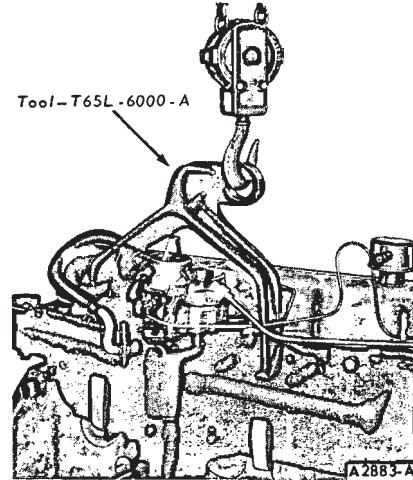

FIG. 45—Removing or Installing Engine
**12.** Attach the engine lifting hook (Fig. 45). Remove two bolts attaching the right side engine support insulator to the engine. Remove the insulator. Raise the engine slightly; then carefully pull it from the transmission. Lift the engine out of the chassis.
Install the thrust bearing cap with the bolts finger-right. Pry the crankshaft forward against the thrust surface of the upper half of the bearing (Fig. 45). Hold the crankshaft forward and pry the thrust bearing cap to the rear. This will align the thrust surfaces of both halves of the bearing. Retain the forward pressure on the crankshaft. Torque the cap bolts to specifications.